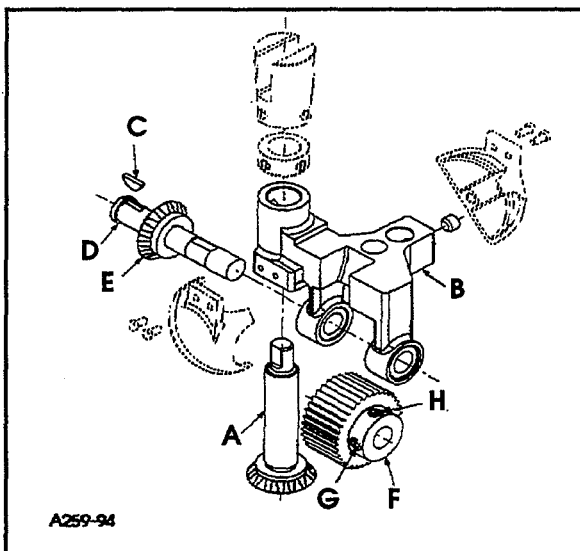

FIG. 17
Assemble driven gear (A, Fig. 17) through feed roller frame (B). Place woodruff key (C) into slot of feed roller shaft (D). Slide driven gear (E) on to shaft (D), make sure key (C) goes into slot in gear (E). While holding feed roller frame (B) with steel roller (F) between the two frame lobes, slide feed roller shaft (D) and assembled components through frame. Make sure that shoulder of roller (F) is to the right. Align screw (G) (first in operating direction on roller) on the flat of shaft (E). At the same time thrust shoulder of shaft (D) against face of gear (E), make sure left edge of roller is against right (inside) face of left lobe. Secure screw (G) on flat of shaft (D) and tighten screw (H).